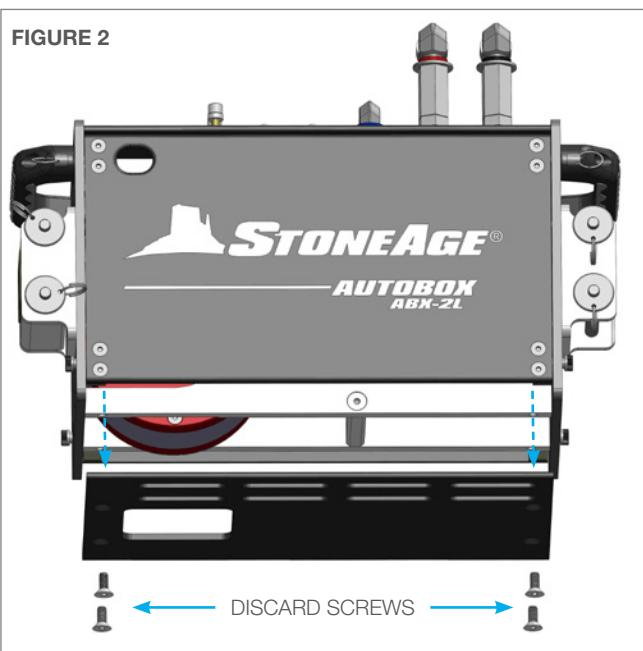

FIGURE 2
- Remove the old bottom plate and install the new one with the four 1/4" flat head cap screws. **(Figure 2)** IF INSTALLING A SCAFFOLD MOUNT RETROFIT KIT, DISCARD THE REMOVED SCREWS AND FOLLOW STEP 3.